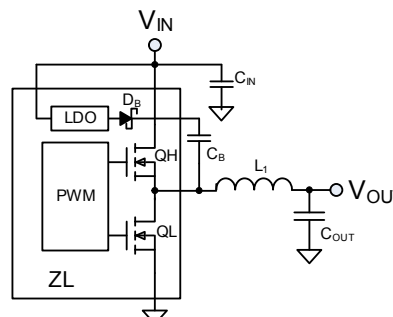

FIGURE 9. SYNCHRONOUS BUCK CONVERTER
Figure 9 illustrates the basic synchronous buck converter topology showing the primary power train components. This converter is also called a step-down converter, as the output voltage must always be lower than the input voltage.
The maximum conversion ratio is shown in Figure 9. Typically, buck converters specify a maximum duty cycle that effectively limits the maximum output voltage that can be realized for a given input voltage and switching frequency. This duty cycle limit ensures that the low-side MOSFET is allowed to turn on for a minimum amount of time during each switching cycle, which enables the bootstrap capacitor to be charged up and provide adequate gate drive voltage for the high-side MOSFET.
The gate drive voltage for the high-side MOSFET driver is generated by a floating bootstrap capacitor,  $C_B$  (see Figure 9). When the lower MOSFET (QL) is turned on, the SW node is pulled to ground and the capacitor is charged from the internal VR bias regulator through diode  $D_B$ . When QL turns off and the upper MOSFET (QH) turns on, the SW node is pulled up to VDDP and the voltage on the bootstrap capacitor is boosted approximately 6.5V above VDDP to provide the necessary voltage to power the high-side driver. An internal Schottky diode is used with  $C_B$  to help maximize the high-side drive supply voltage.